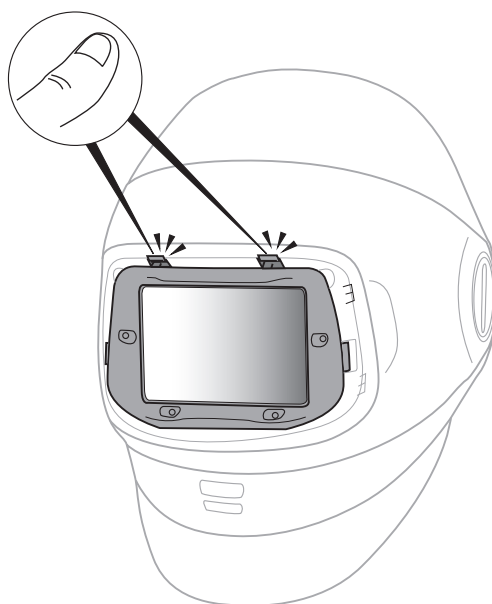

Fig. 21j
- g. Next, tip the ADF into the outer welding shield and firmly press on the two locking tabs until an audible “click” is heard (Fig. 21j).